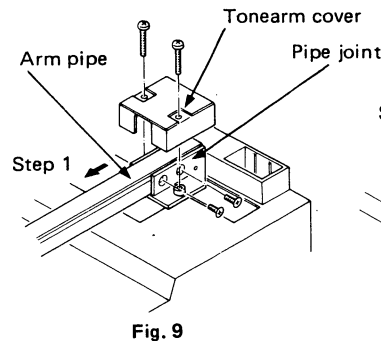
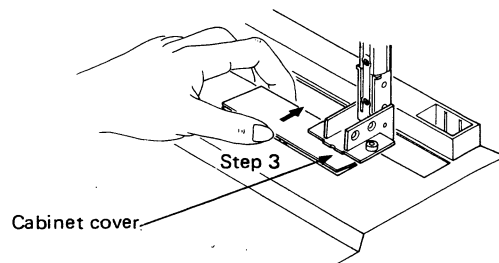

Fig. 9
Fig. 11
(1) Remove the four foot mounting screws from the bottom board.
(2) Remove the cord stopper of the signal cord.
(3) Remove the tonearm cover and the two pan head screws in the base of the arm as shown in Fig. 9. In addition, be sure to cover the stylus with the stylus cover to protect it.
(4) While holding the pipe joint by hand, pull the arm pipe slightly towards you (Step 1) and lift the arm pipe until it stops. (Step 2)
(5) Remove the cabinet cover at the base of the arm. (Step 3) (Move out the cabinet cover to the rear while pressing down the area marked by an arrow as shown in Fig. 11.)
(6) Set up the cabinet paying attention to the arm and rest sections.